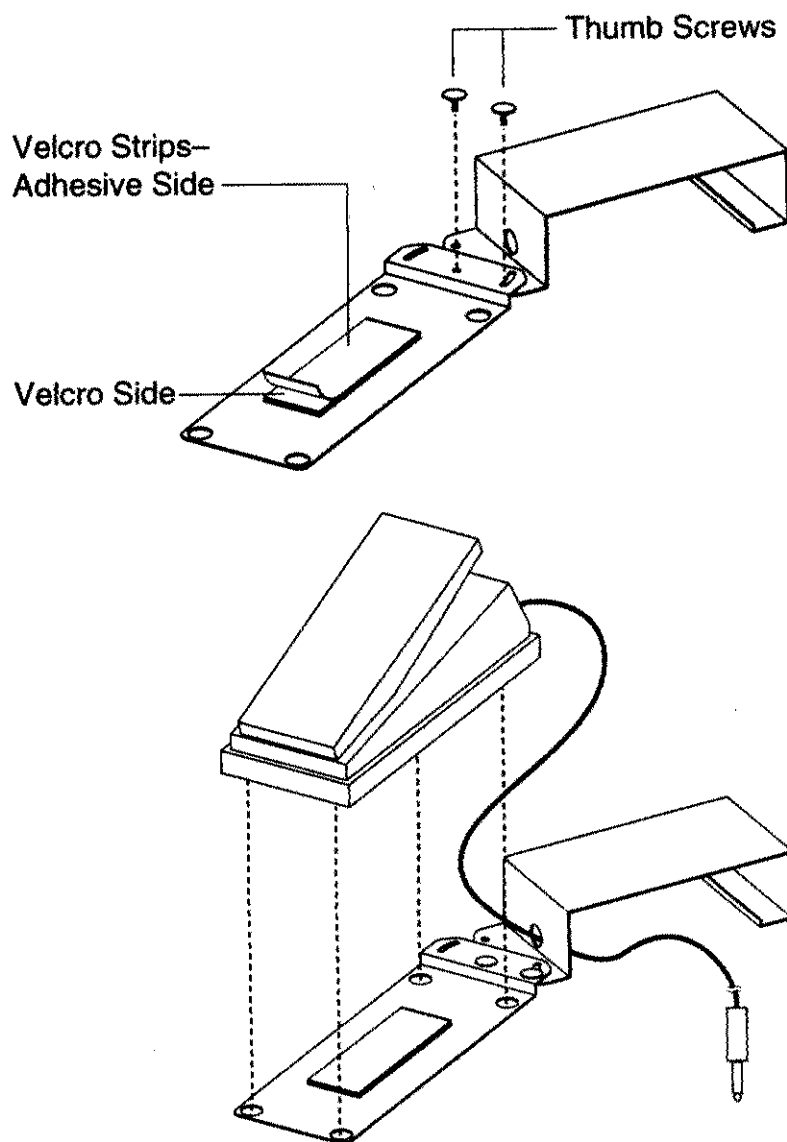

Figure 4. Bracket/Continuous Control Pedal Assembly.
11. See Figure 4. Connect the Bracket's two pieces by inserting the Thumb Screws as shown below. Then hand-tighten the Thumb Screws.
13. Peel the adhesive backing off of both Velcro strips, and attach one side to the Bracket, as shown in Figure 4.
14. Feed the Continuous Control Pedal cable through the Bracket, as shown in Figure 4.